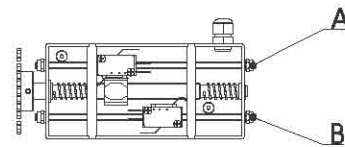

Fig. 11
- 3) Turn the adjusting screw A (Fig. 11) until you can hear the relevant limit-switch come into operation. As soon as the limit-switch operates, turn the adjustment screw by a further 360°.
- 5) Turn the adjusting screw B (Fig. 11) until you can hear the relevant limit-switch come into operation. As soon as the limit-switch operates, turn the adjustment screw by a further 360°.